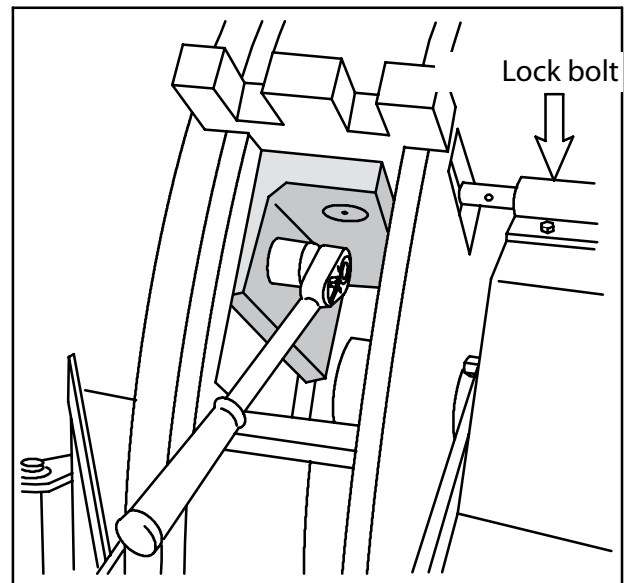

Fig 16. Locking the disk and removing the lock nuts
- Remove the lock bolt (M6) (1).
- Loosen the hinge bushing nuts (M20) (2) slightly.
- Pull the hinge pin (3) out.
- Lock the disk with the lock bolt. See Fig. 16.
1. Remove the knife lock nuts (M12). Fig. 16.